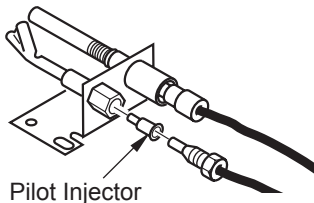

Figure 13 - Installing Propane/LP Pilot Orifice
- Gently loosen and remove the pilot line connection from the bracket (see Figure 13).
- Replace the injector (see Figure 13) with the propane/LP pilot injector with the red stripe.